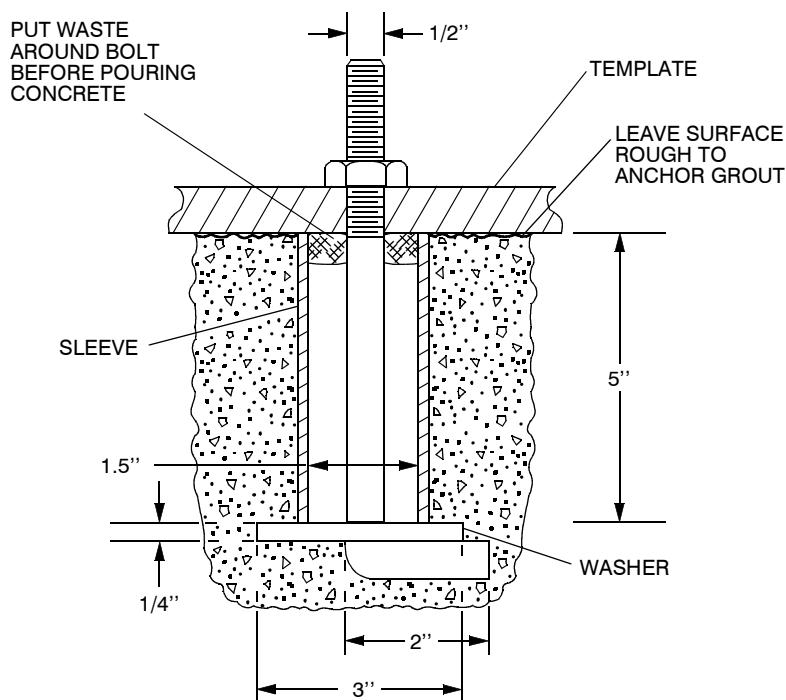

Figure 3-5. Typical Foundation Bolt Configuration
6. Assemble foundation bolts as shown in Figure 3-5 and attach them to template. Foundation bolts should extend about 2 to 2.5 inches above top of form.